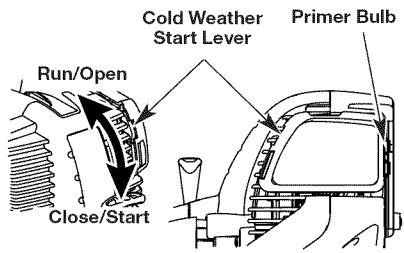

Fig. 10
IF COLD... For cold weather conditions (below 40°F), flip the cold weather start lever (Fig. 10) down to the start/closed position and continue to step 3. **DO NOT** flip this lever down if the temperature is above 40°F.
3. Fully press and release the primer bulb 10 times, slowly. Some amount of fuel should be visible in the primer bulb (Fig. 10). If fuel can not be seen in the bulb, press and release the bulb until fuel is visible.